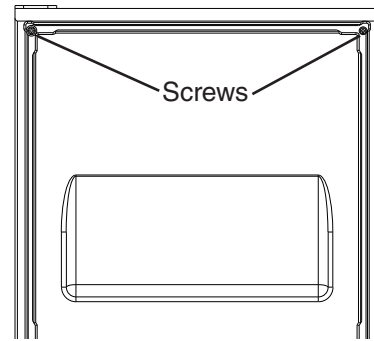

Fig. 21
- 2) Temporarily fasten the overlay panel to the door using 2 of the M4x25 pan head screws provided. See Fig. 21.